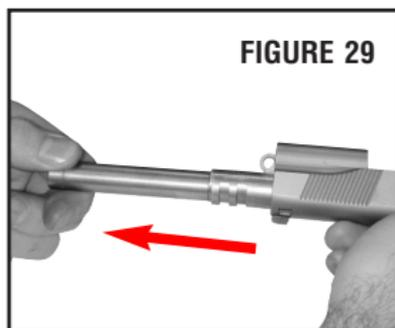

FIGURE 29
- Rotate the barrel link to the forward position (lowered) and remove the barrel through the front of the slide (FIGURE 29).